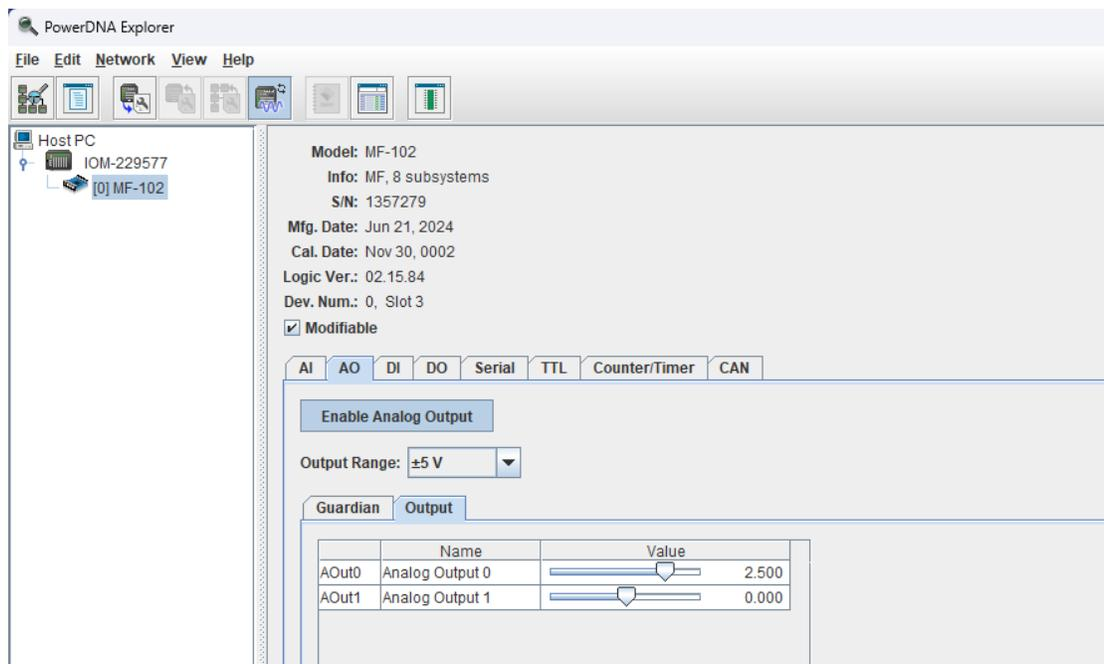

Figure 3-3 PowerDNA Explorer AO Tab, Output Subtab
3.3.1 Write AO Data The AO Output subtab (**Figure 3-3**) contains the following: